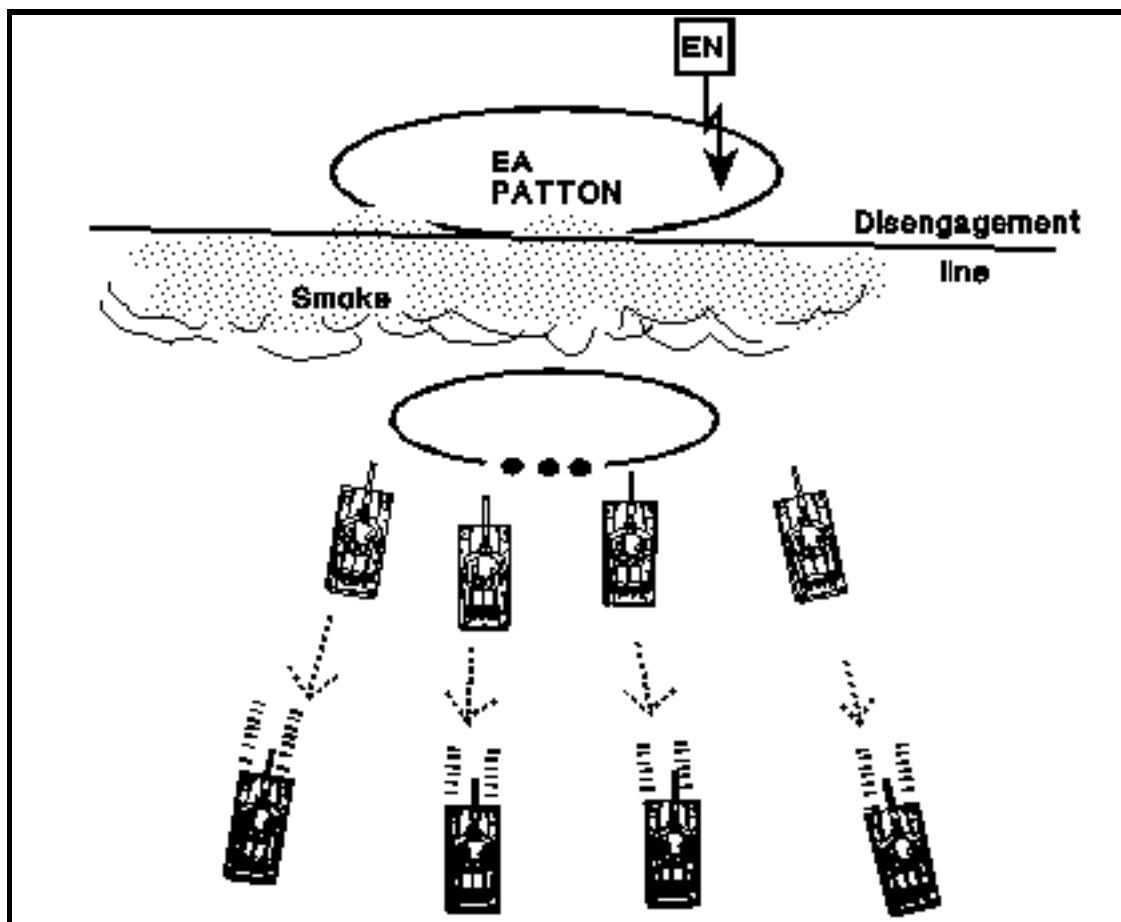

Figure D-6. Using screening smoke to conceal displacement.
- conducts a bypass, breach, or assault mission. Figures D-6 through D-8, pages D-26 and D-27, illustrate uses of screening smoke.